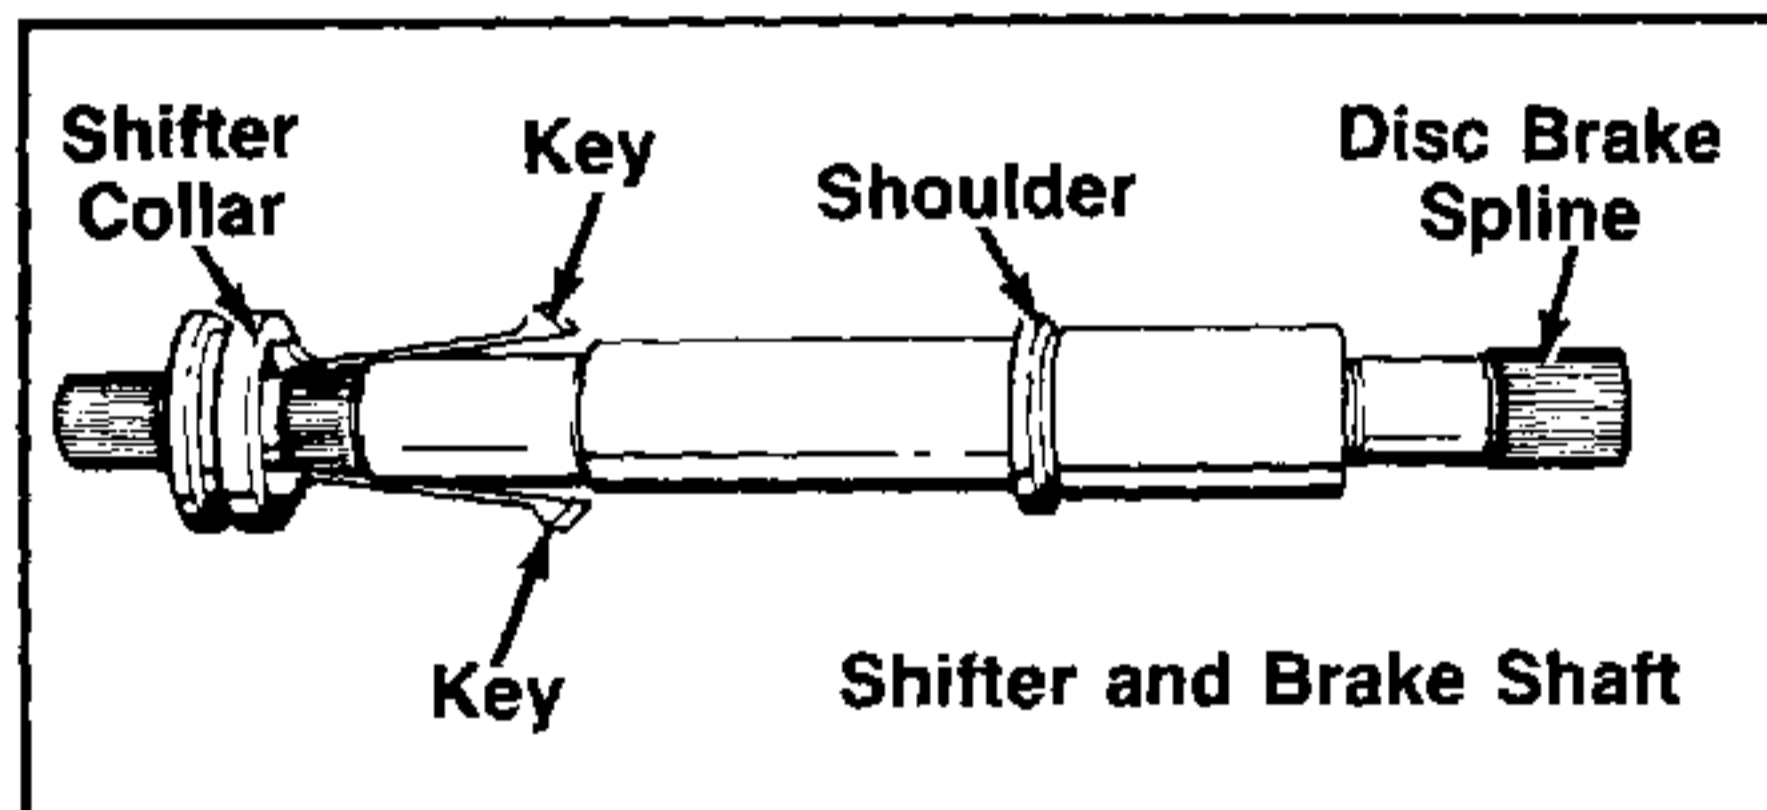

FIGURE 23.
- Grease both keyways and slide keys and collar on output and brakeshaft. Thick side of collar **MUST** face shoulder on shaft. See figure 23.